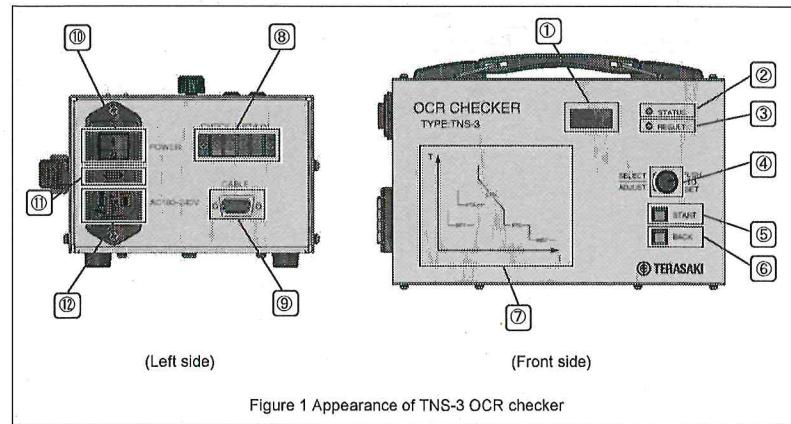

Figure 1 Appearance of TNS-3 OCR checker
- 1) Press the power switch (shown in Figure 1) on the OCR checker to turn the power on.